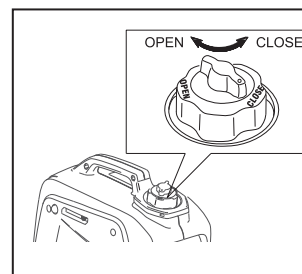

Fig. 4-5
5) FUEL TANK CAP AIR VENT KNOB (See Fig 4-5)